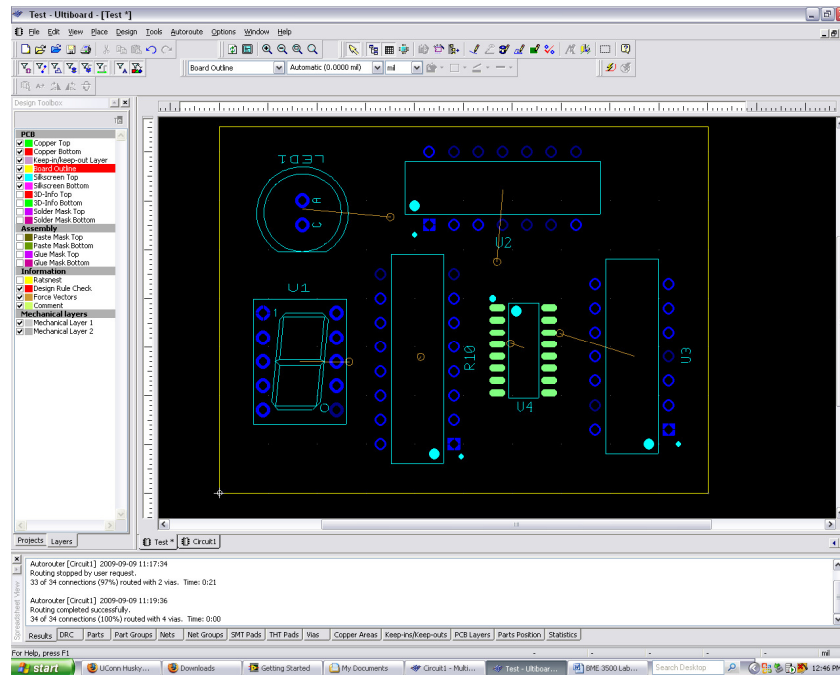

Figure 6. Possible Component Layout
9. There are many different ways this board could be laid out and it takes practice to make efficient boards. Use Figure 6 as an example of where to put components, or feel free to create your own unique layout.